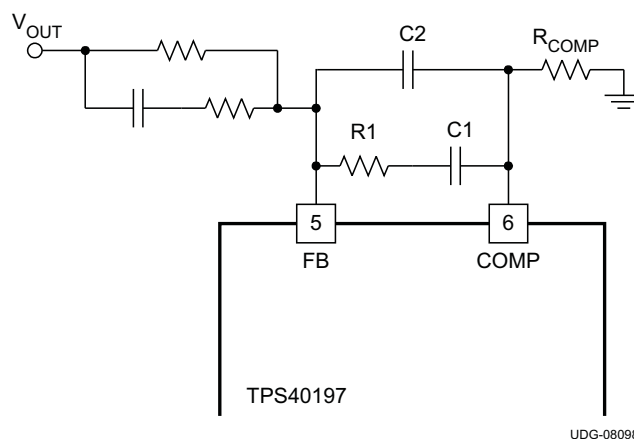

Figure 16. Short Circuit Threshold Feedback Network
- R1 and C1 are the values of the components in Figure 16